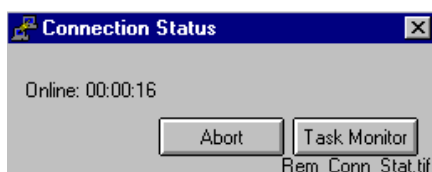
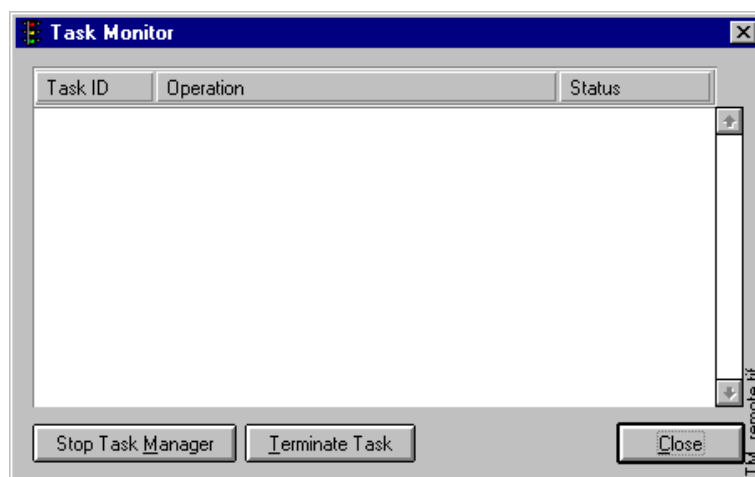

Fig. 12.3.2.-1 Connection status
Fig. 12.3.3.-1 Remote Task Monitor
When being connected to a remote system, a Connection Status dialog opens, see Fig. 12.3.2.-1.
In Fig. 12.3.2.-1, the button **Task Monitor** for Dial-Up (SPA) type of connections is disabled. The Connection Status dialog is available as long as there is a connection on-line and it also presents the time elapsed whilst being on-line.
When there is a remote connection using LAN or Remote/RAS, the Connection Status dialog in Fig. 12.3.2.-1 is shown. The button **Task Monitor** opens the remote Task Monitor, see Fig. 12.3.3.-1 (disabled for Dial-Up (SPA) type of connections).
The Task Monitor itself is described in Chapter 16. Task monitoring, but there are two buttons, which are not described there. The following table describes the buttons shown in Fig. 12.3.3.-1.
- By selecting **another remote connection**, the present one is ended and a new connection is opened, see Fig. 12.3.3.-1
- By pressing the **Abort** button which is available when there is a connection on-line, see Fig. 12.3.2.-1